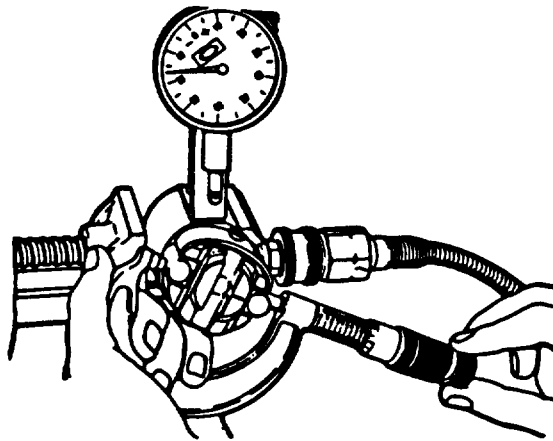

FIGURE 3-74. Measuring Roller-To-Roller Dimension
- k. Using a micrometer, measure roller-to-roller dimension (distance between outer surfaces of opposed cam rollers). Dimension should be 1.9845 to 1.9875 inches (50.032 to 50.118 mm), refer to FIGURE 3-74.